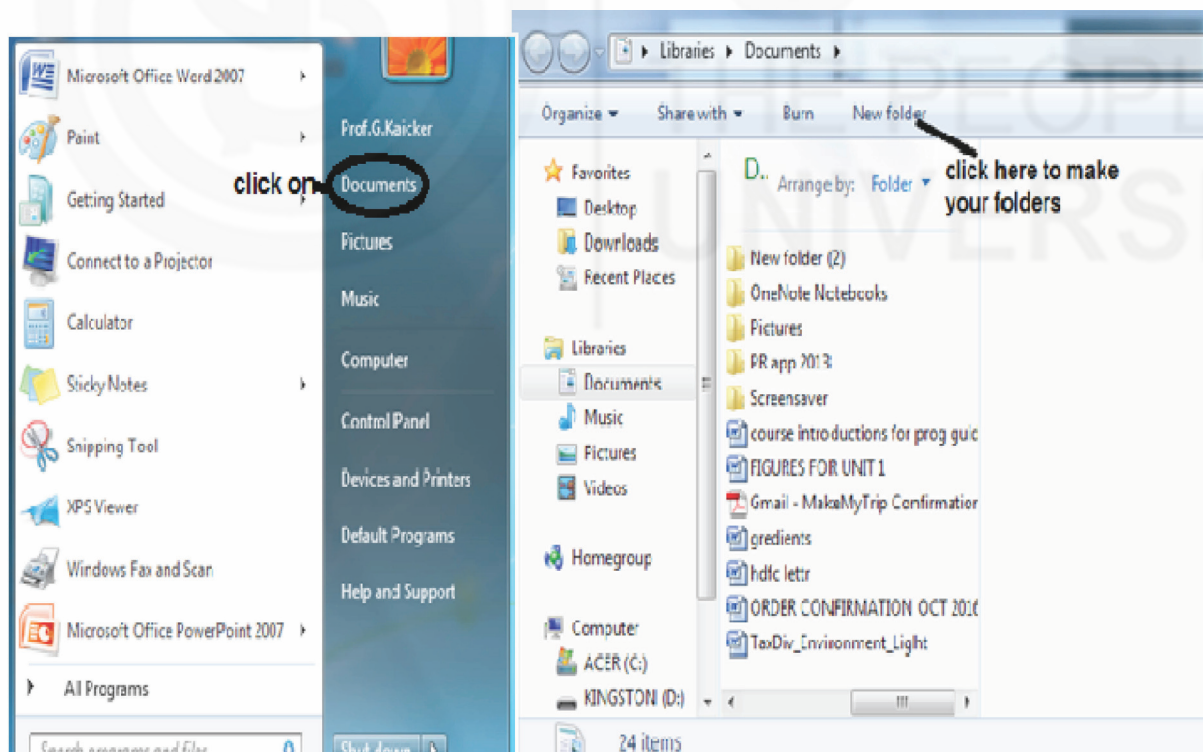

Fig. 14.8: Creating a filing system.
- ➔ Open your computer using the start button. Go to **Documents** (Fig.14.8).